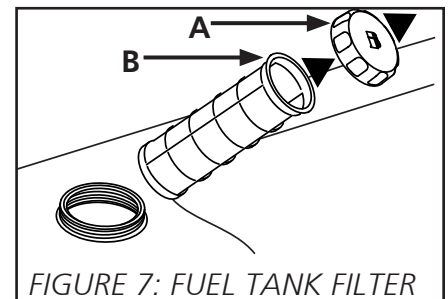

FIGURE 7: FUEL TANK FILTER
- (Figure 7) Remove fuel tank cap A